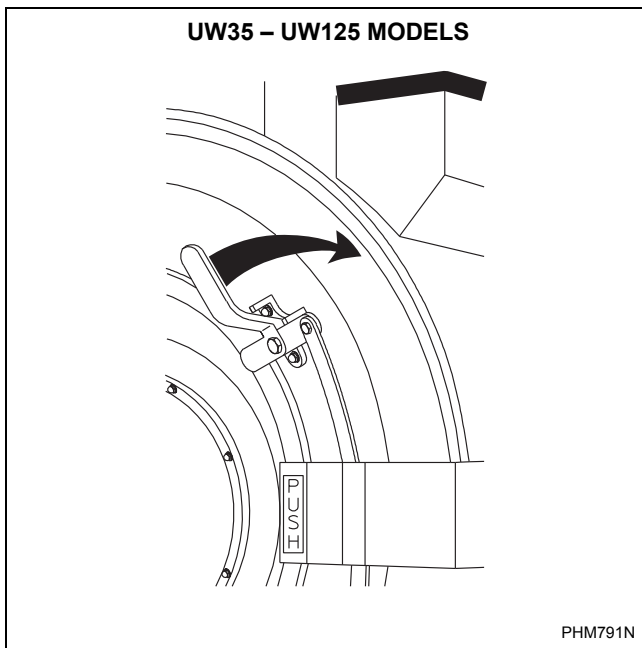

Figure 9
4. On 35 – 125 models, turn door handle clockwise and swing the door left to open. Door must be opened within 5 seconds of pressing the door unlock button. Refer to *Figure 9*.